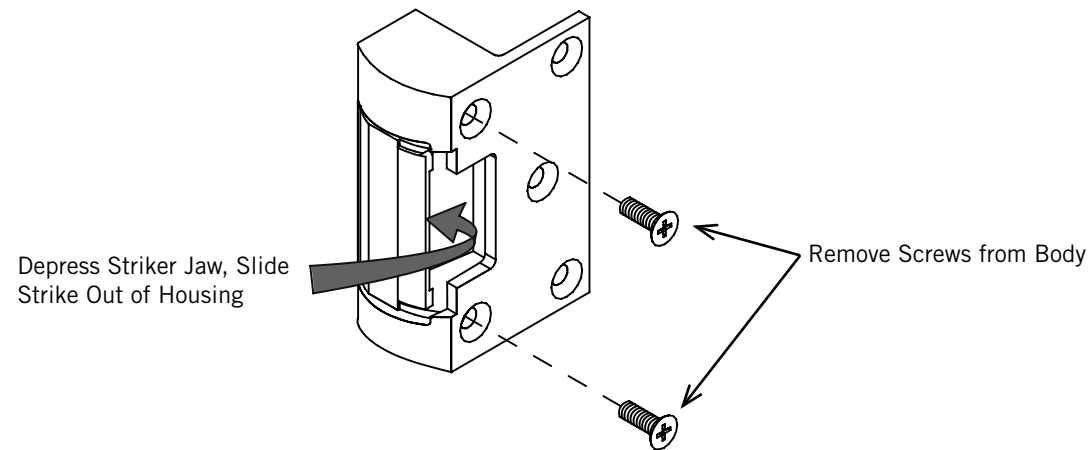

Fig. 4 - Remove Screws, then Slide Strike Out of Housing
1. To change electric strike's mode of lock operation, remove the 2 screws securing the lock to the body (see Fig. 4).